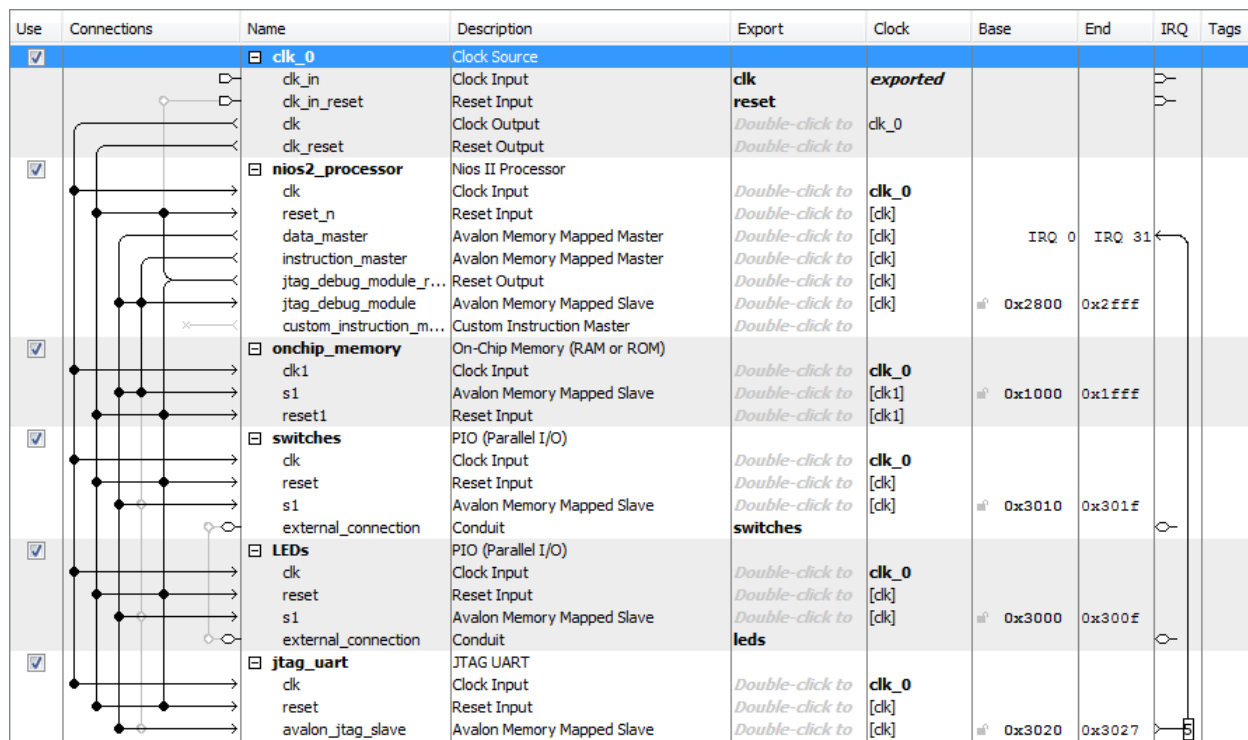

Figure 19. The complete system.
14. So far, we have specified all connections inside our *nios\_system* circuit. It is also necessary to specify connections to external components, which are switches and LEDs in our case. To accomplish this, double click on Double-click to export (in the Export column of the System Contents tab) for *external\_connection* of the switches PIO, and type the name *switches*. Similarly, establish the external connection for the lights, called *leds*. This completes the specification of our *nios\_system*, which is depicted in Figure 19.